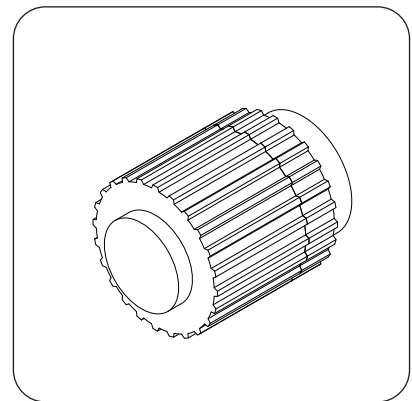
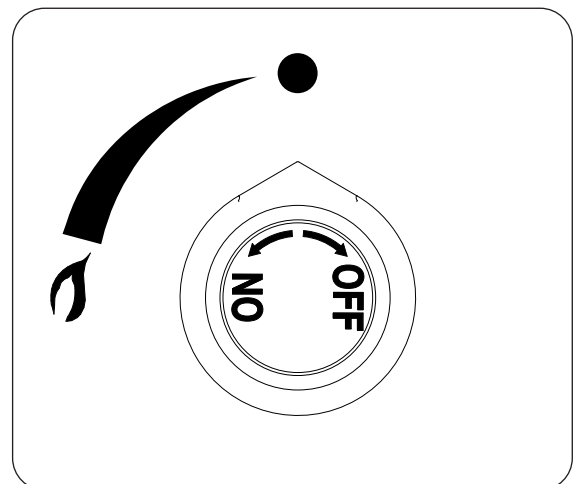

Fig. 47-1 Igniter button detail
Fig. 47-2 Control knob detail
2. Locate the control panel on the side of the unit (refer to the IDENTIFICATION PARTS LIST if needed), and identify the igniter button (Fig. 47-1) and gas control knob (Fig. 47-2). Ensure the gas control knob is in the OFF position before beginning the lighting sequence.
To extinguish your gas burner, turn the gas control knob clockwise to the **OFF** position (see Fig. 47-2). Be sure the control knob is turned fully off to avoid any gas leakage.